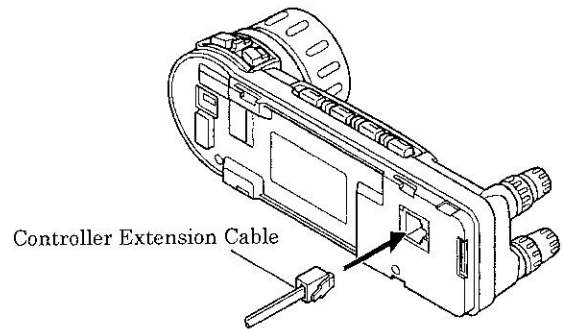

Figure 6
7. Referring to Figure 6, insert the plug of the Controller Extension Cable into the corresponding jack on the Front Panel.